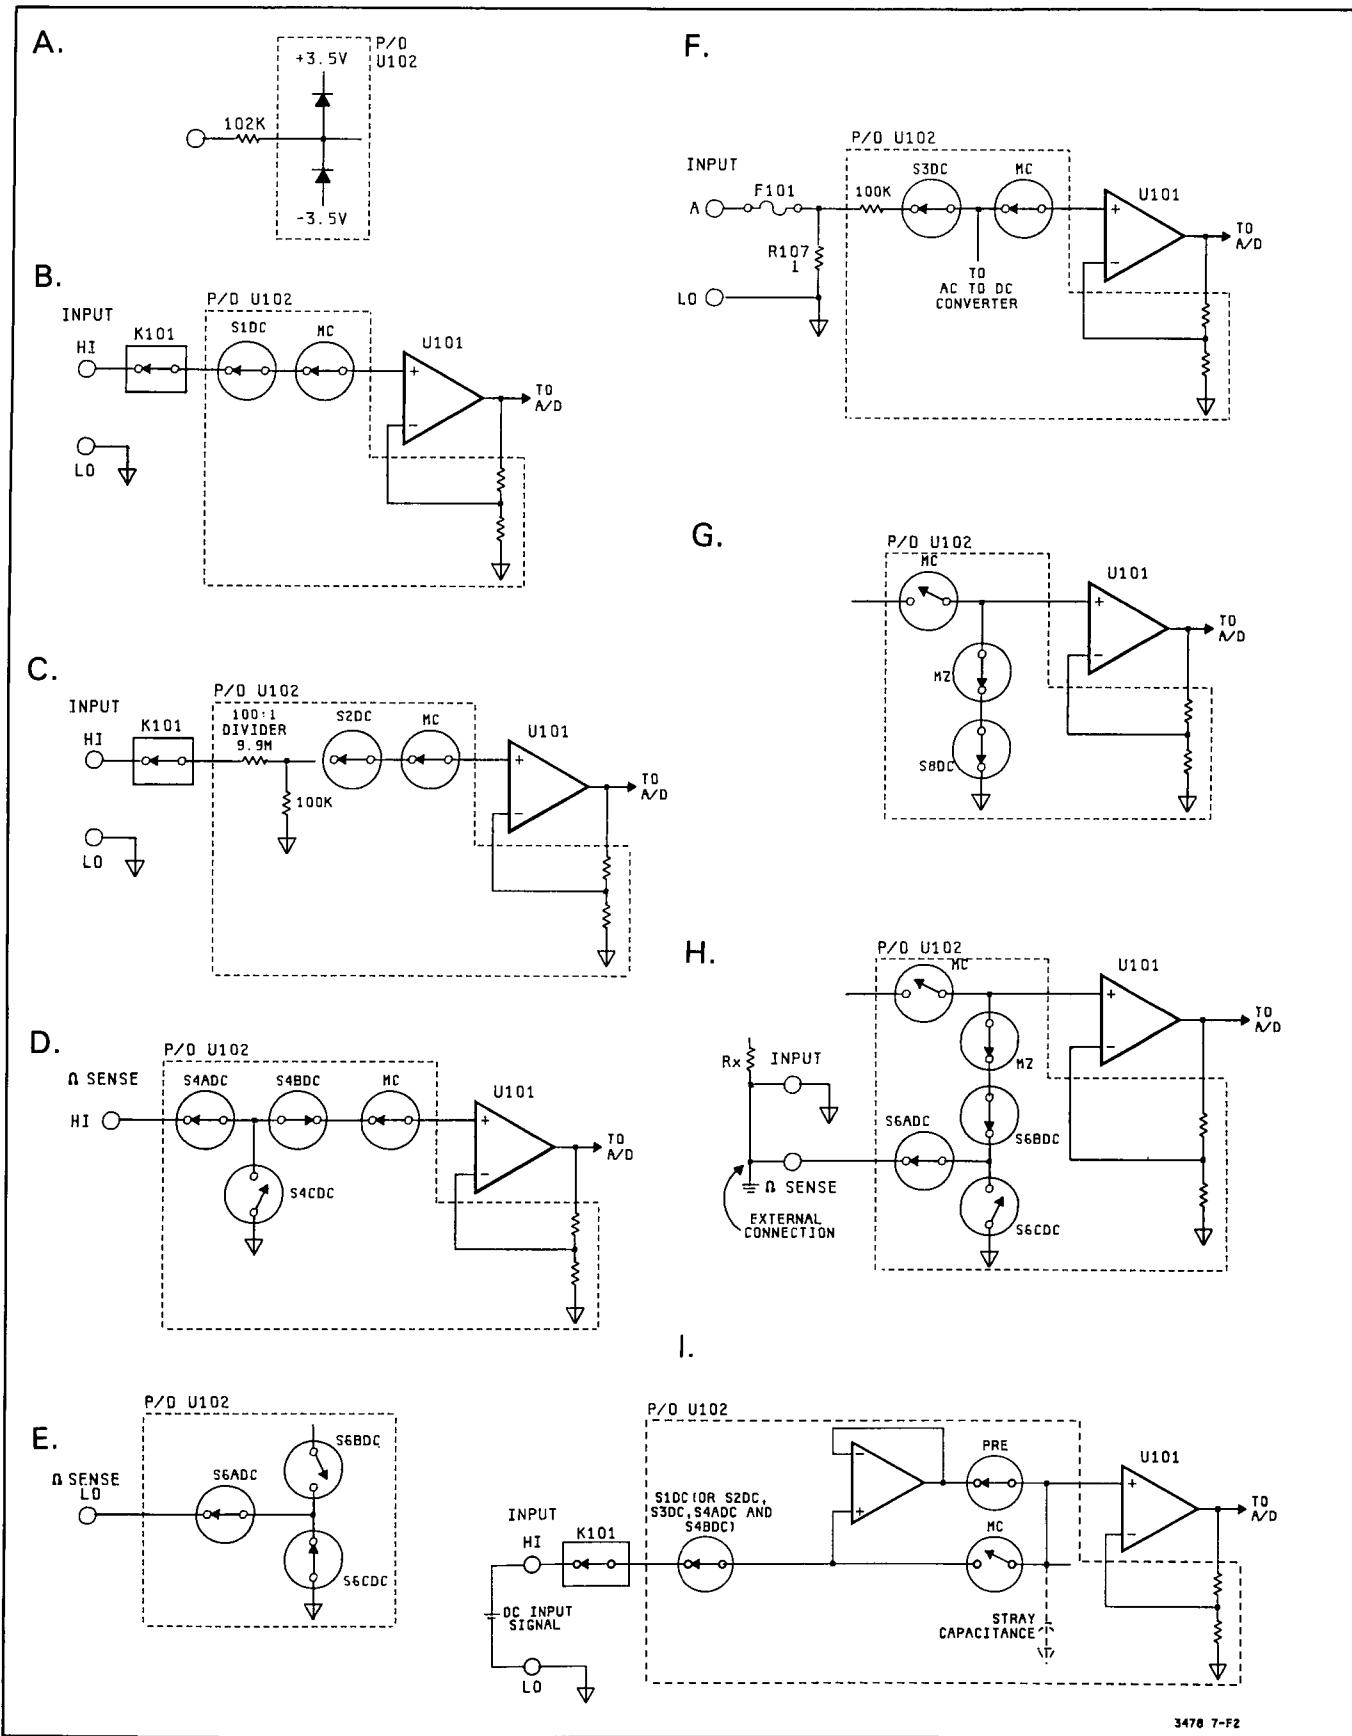

Figure 7-F-2. Simplified Schematic Of The Input Switching Circuitry
b. **Low Voltage Protection.** This circuit consists of diodes connected to the individual input nodes (part of the HI INPUT, LO INPUT, A INPUT Paths, etc.). The diodes on each node are connected (internally in U102) to + 3.5V and -3.5V power supplies. If the voltage on a node exceeds either + 4.2V or -4.2V, a diode conducts and keeps the level on the node to the  $\pm 4.2V$  levels. The difference between the high voltage at the input terminals and the voltage at the input nodes is dropped across the resistors which are in series with the diodes and input terminals (the low pass filter). Figure 7-F-2A shows a typical protection circuit.
7-F-13. **Input Switching.** The Input Switching Circuitry consists mostly of Relay and MOSFET switches, with most FET switches located in U102. The purposes of the switches are to provide five signal paths to the Input Amplifier and to connect the amplifier for a zero measurement (done in the Autozero Function; see paragraph 7-F-14). The switches are controlled by circuits in U102 which receive their control information from the A/D Controller. The following explains the various input paths. Refer to Figure 7-F-2 and Schematic 1 for the explanation.
a. **Low Voltage Range Input Path (Figure 7-F-2B).** The path consists of K101, R103, R104, R110, and S1DC (S1DC is in U102). The purpose of the path is to connect the HI INPUT Terminal (high input voltage) to the DC/Ohms Input Amplifier. The path is used only in the 30mV through 3V dc volts Ranges and all Ohms Ranges.
b. **High Voltage Range Input Path (Figure 7-F-2C).** The path consists of R110, K102, S2DC (in 102), and a 100:1 divider (9.9M ohm and 100K ohm resistors, RD99 and RD98, in U102). The purpose of the path is to attenuate input voltages by a factor of 100 and to connect the attenuated voltage to the DC/Ohms Input Amplifier. The path is used only in the 30V and 300V dc volts Ranges.
c. **Ohms High Sense Path (Figure 7-F-2D).** This path consists of R105, R106, and S4ADC and S4BDC (S4ADC and S4BDC are in U102). The path connects the HI OHMS SENSE Terminal (high ohms input) to the DC/Ohms Input Amplifier, only when the 3478A is in the 4-Wire Ohms Function. Switch S4CDC (which is also part of the path) is used to connect the junction of S4ADC and S4BDC to ground. Switch S4CDC is closed in all functions except the 4-Wire Ohms Function and shunts any possible voltage on the S4ADC and S4BDC junction to ground.
**d. Ohms Low Sense Path (Figure 7-F-2E).** This path consists of R101, R102, and S6ADC and S6CDC (S6ADC and S6CDC are in U102). The path is used to connect the LO OHMS SENSE Input Terminal (low ohms input) to ground (LO INPUT Terminal), when the 3478A is in the 4-Wire Ohms Function. In the 2-Wire Ohms Function, the low ohms input is the LO INPUT Terminal (which is connected to ground).
**e. Current Input Path (Figure 7-F-2F).** This path includes R107 and S3DC (in U102). The voltage drop across R107 (which is generated by the current being measured) is connected through S3DC to the DC/Ohms Input Amplifier. This path is used only in the DC Current Function.
**a. Autozero (in the DC Volts, DC Current, and 2-Wire Ohms Functions).** In the DC Volts, DC Current, and 2-Wire Ohms Functions, the zero measurement is made with switch MC (measure customer) open, and switch MZ (measure zero) and S8DC closed (see Figure 7-F-2G). Switch S8DC and MZ connects the DC/Ohms Input Amplifier to ground through a 102K ohm resistor. After the zero measurement is made, switch S8DC and MZ opens, and switch MC closes for the input measurement. (Note: MOSFET switches MC, MZ, and S8DC are in U102.)